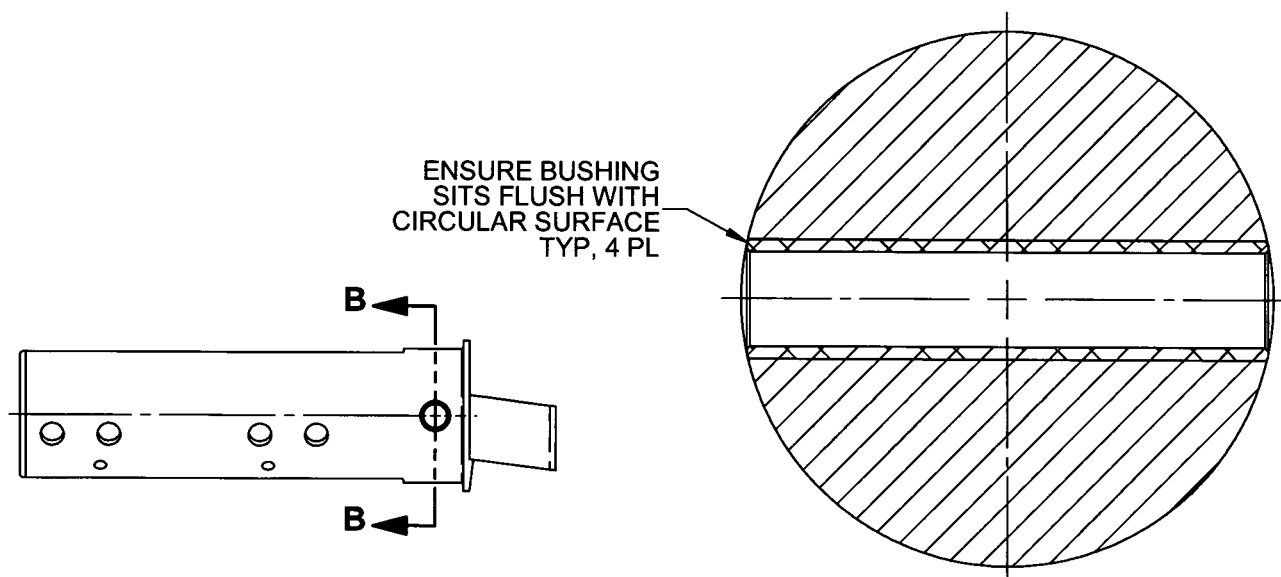

FIGURE 3: Assembly Detail
- 4.1 Bond bushings to the D3488-041/-042 Blade Fitting Assemblies using Proseal 890 Class B or AMS-S-8802 Class B sealant or 3M DP460 Scotch-Weld Epoxy Adhesive in accordance with the manufacturer's instructions. Ensure the inside of the bushings are free from sealant or adhesive. Refer to Figure 3 of this Service Instruction.